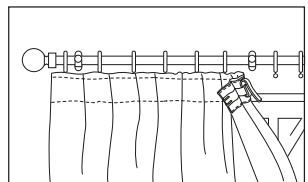

Fig. 5
- 7** Where centre bracket is provided, please ensure that the ring nearest the centre of each curtain is placed at least 5cm in from that edge (see Fig 5) to allow the curtains to overlap.